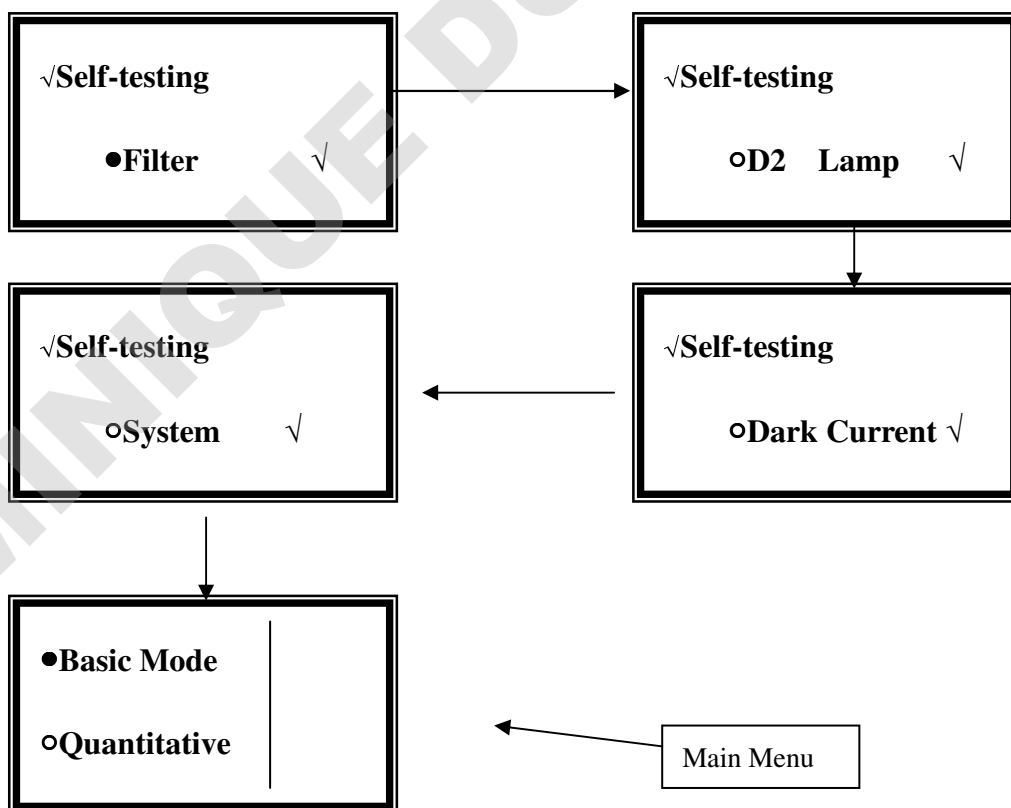
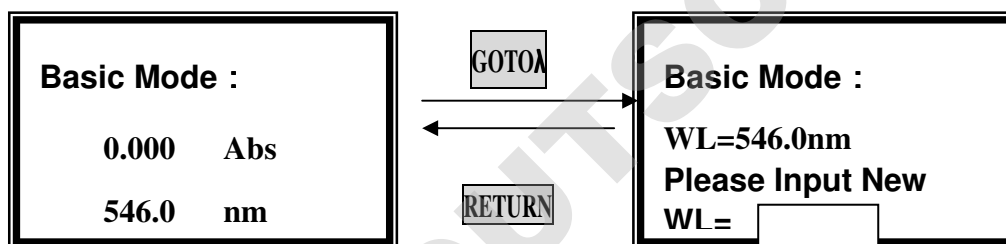
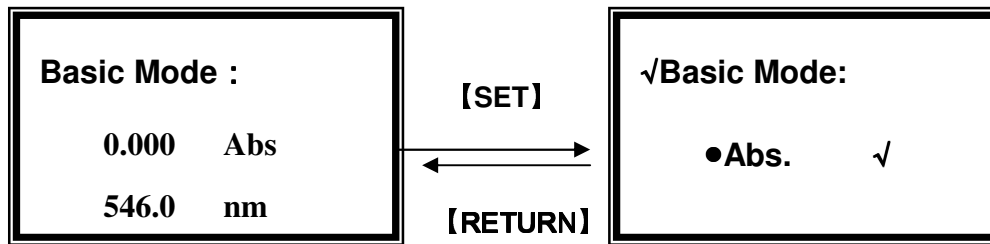

Fig 3
Fig 4
Fig.7
1. The instrument will position filter first, then initialize lamp position and AD converter, then D2 / W lamps warm up, then Wavelength reset and get dark current, After initializing printer, checking battery and setting up system, the screen display the main menu. And the self-testing process display as fig 3.
- ✧ Press **[GOTOλ]** (Fig 4).
Push the blank cuvette into the light path. In main menu (the last one of Fig. 3), move the cursor on “Basic mode”, then press **【ENTER】** to go into basic mode test. After automatically blanking, it will display as the left one of Fig. 4 and wait for the operator.
[RETURN] to exit to the left of Fig.4, blank at the same time. (Fig. 7)